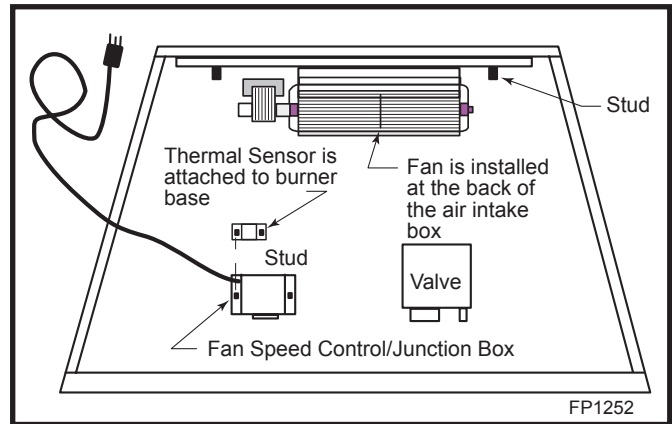

Fig. 13 Fan location.
**Should this fan require servicing, the power supply must be disconnected. For rewiring of any replacement components refer to Figures 13 & 14.**
5. Remove the fan mounting nuts (2). (Fig. 13)